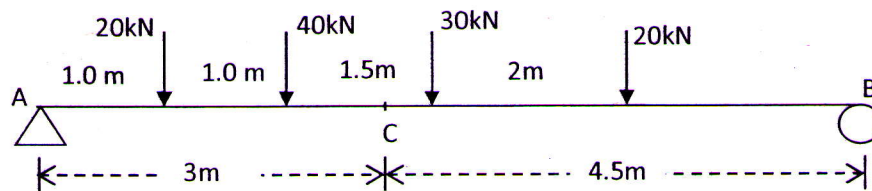

Fig.5
- b) A girder is loaded as shown in Fig.5. Find the shear force at section C using influence line diagram. 7.5